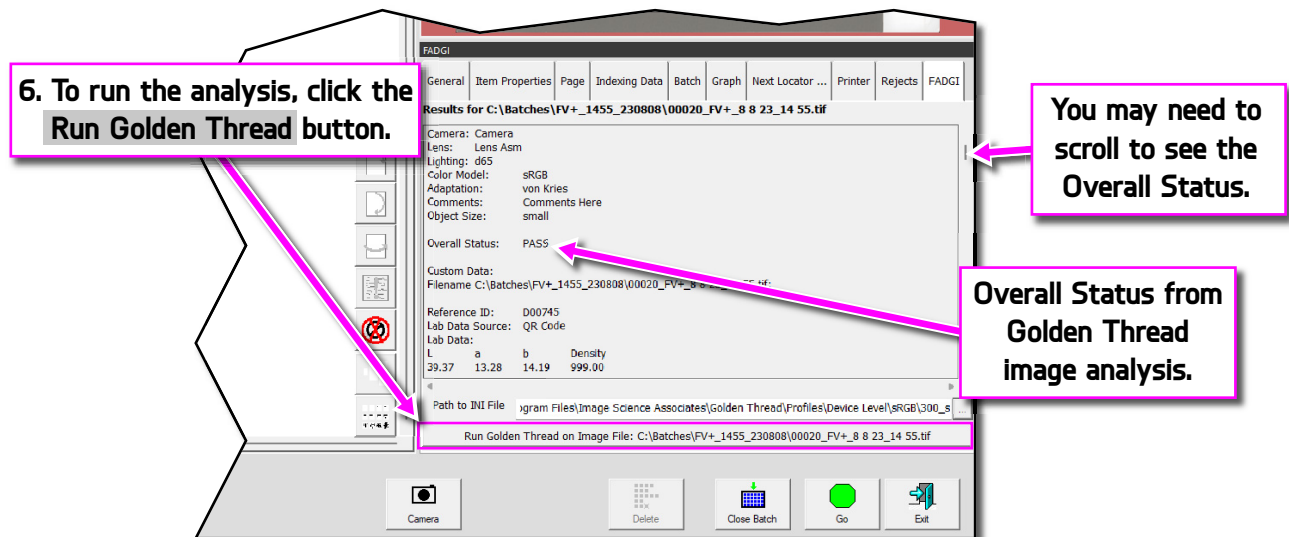

Figure 3-36: Click Run Golden Thread and view Overall Status.
6. Once the scanned page appears in the Run Screen, click the **Run Golden Thread** (Figure 3-36). This button sends the last scanned piece to the image analysis software for evaluation.
The software will take a few seconds, and may flash on the screen momentarily, before outputting its results to the FADGI information window. Check for the **Overall Status** (Figure 3-36).